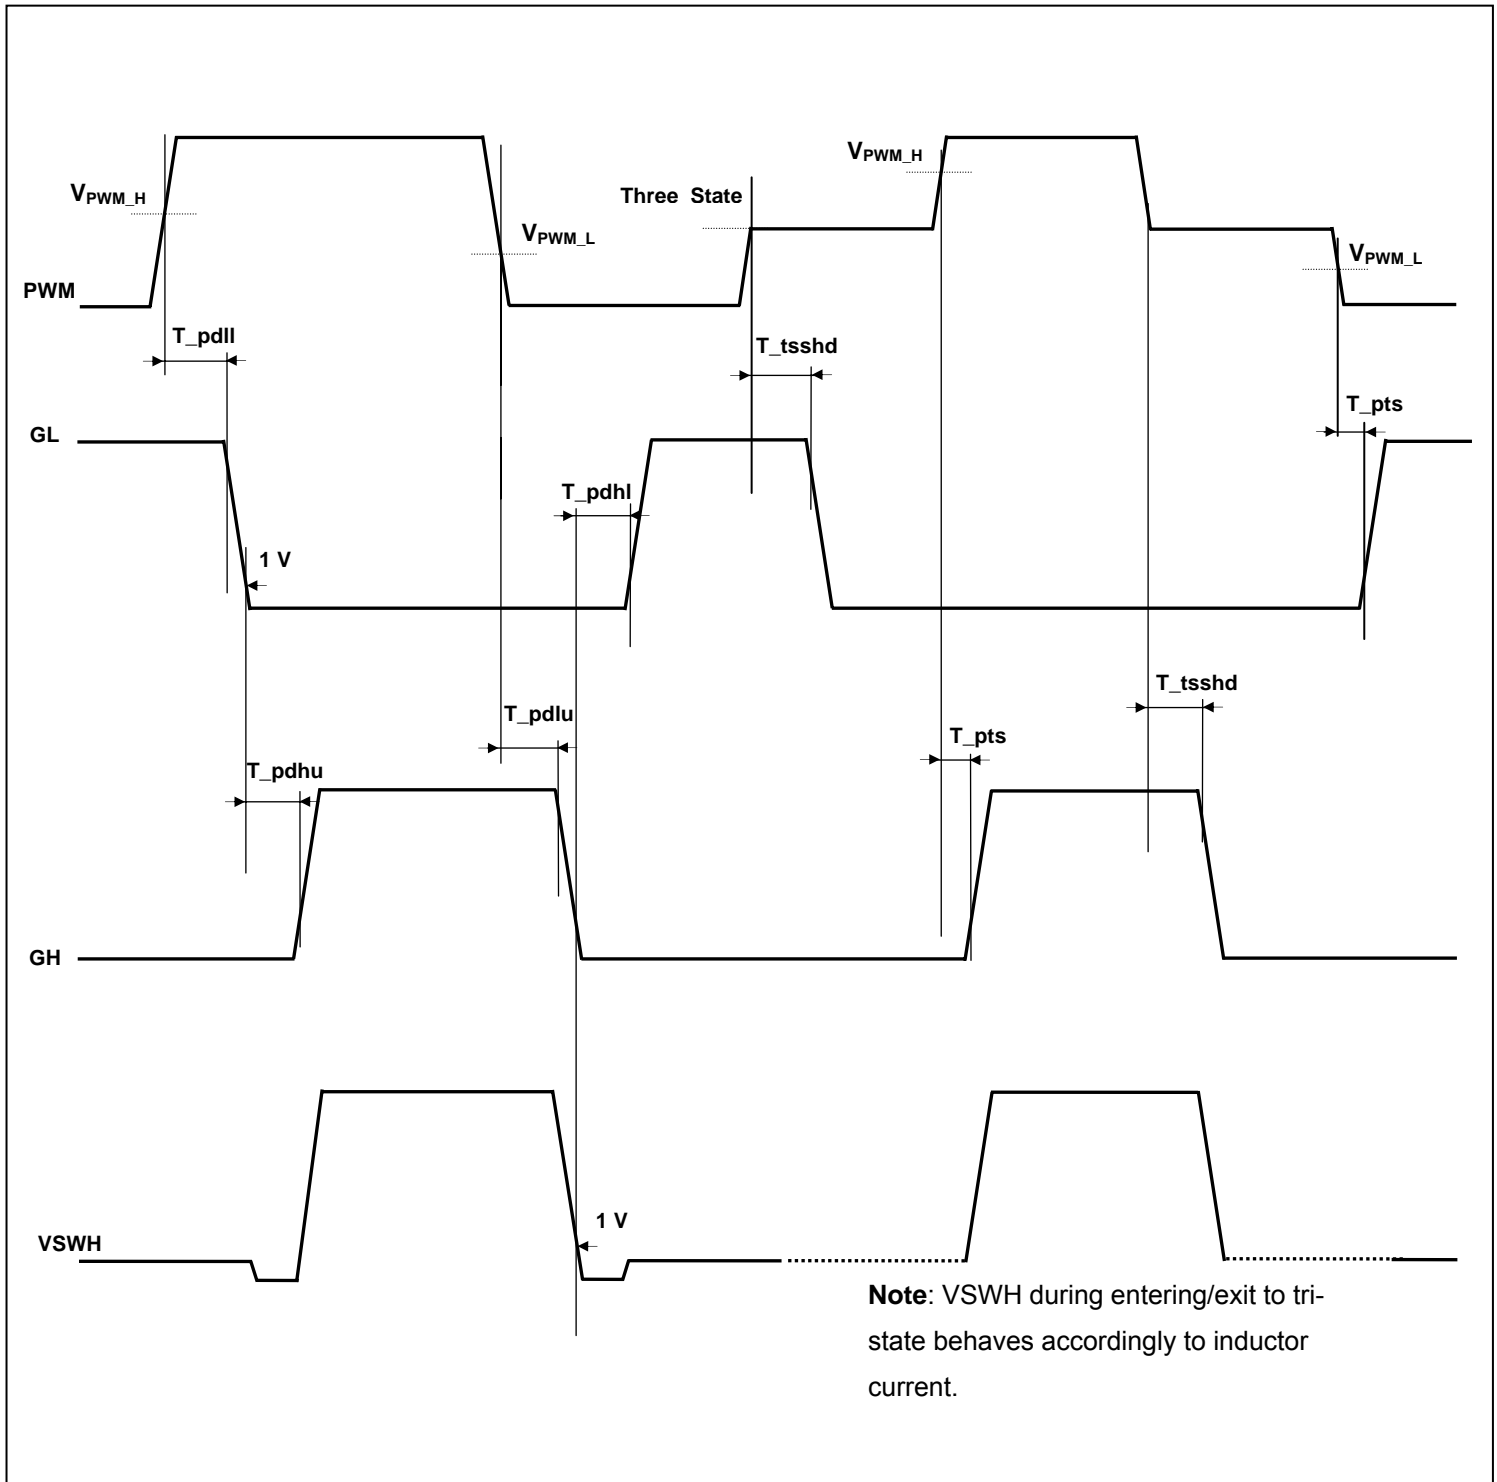

Figure 5: Adaptive Gate Driver Timing Diagram
The TDA21211 driver includes gate drive functionality to protect against shoot through. In order to protect the power stage from overlap, both HS and LS MOSFETs being on at the same time, the adaptive control circuitry monitors the voltage at the "VSWH" pin. When the PWM signal goes low, HS, the High-side MOSFET will begin to turn off, after the propagation delay (T_{pdlu}). Once the "VSWH" pin falls below 1V, LS, the Low-side MOSFET is gated on after the predefined delay time, (T_{pdhl}). Additionally, the gate to source voltage of the HS-MOSFET is also monitored. When VGS(HS) is discharged below 1V, a threshold known to turn HS off, a secondary delay is initiated, (T_{pdhl}), which results in LS being gated "ON" irregardless of the state of the "VSWH" pin. This way it will be ensured that the converter can sink current efficiently and the bootstrap capacitor will be refreshed appropriately during each switching cycle. See Figure 5 for more detail.